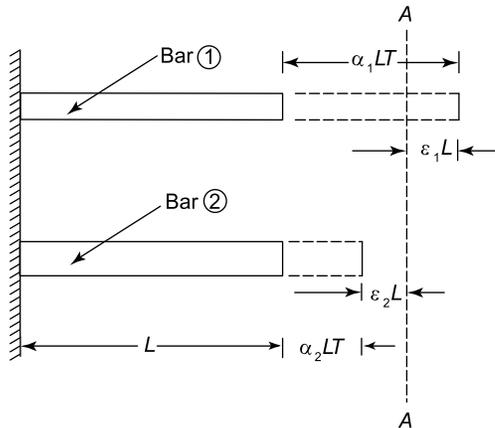

Figure 2.13 'Deflections' of compound bar
There are two unknown forces in these bars, namely  $F_1$  and  $F_2$ ; therefore, two simultaneous equations will be required to determine these unknown forces. The first equation can be obtained by considering the compatibility (i.e. 'deflections') of the bars, with the aid of Figure 2.13.
In practice, however, the final resting position of the compound bar will be somewhere in between these two positions (i.e. at the position A-A in Figure 2.13). To achieve this, it will be necessary for bar (2) to be pulled out by a distance  $\epsilon_2 L$  and for bar (2) to be pushed in by a distance  $\epsilon_1 L$ , where
From considerations of compatibility ('deflection') in Figure 2.13,